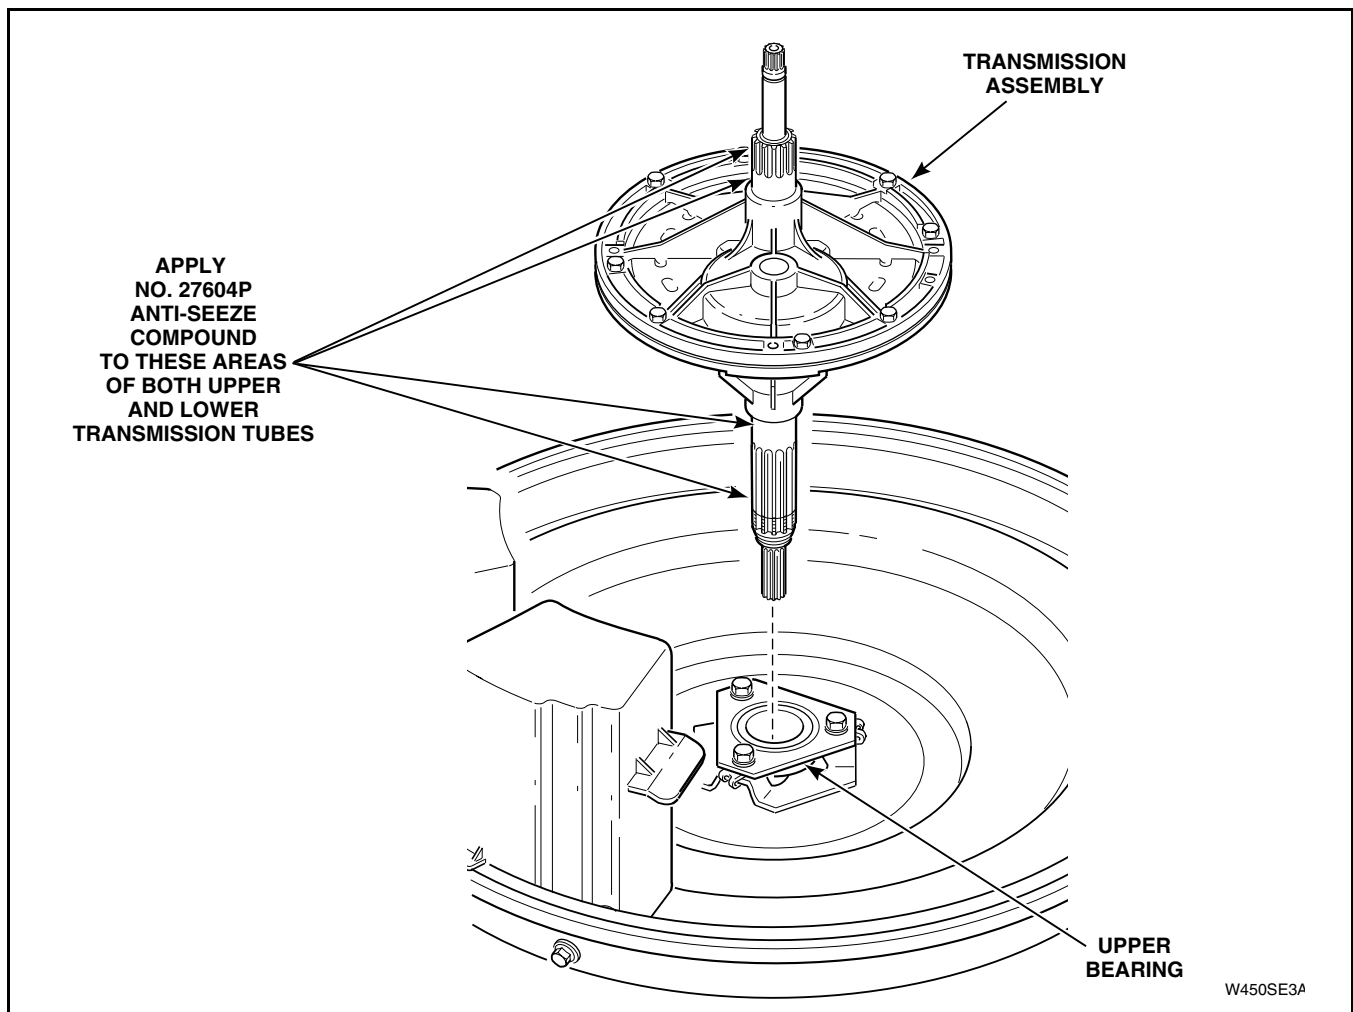

Figure 57
NOTE: When installing lower bearing, weldment assembly and brake assembly, apply No. 27604P Anti-Seeze Compound to area of transmission tube that will be contacting bearing, washtub hub and brake assembly. Refer to *Figure 57*.
IMPORTANT: When replacing or reinstalling transmission assembly, it is important that No. 27604P Anti-Seeze Compound be applied to area of the transmission tubes where they will be contacting upper and lower bearings. Refer to *Figure 57*.
- Apply Anti-Seeze Compound, No. 27604P, to smooth area of both transmission tubes that will be contacting upper and lower bearings. Refer to *Figure 57*.